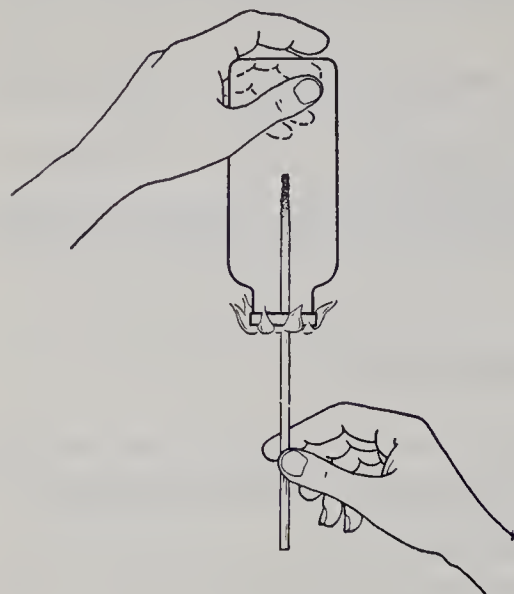

Fig. 33. Thrusting a blazing splint into a bottle of hydrogen.
4. Lift the bottle of hydrogen collected by the downward displacement of water from the table and keeping the mouth down (Fig. 33), slowly insert a long blazing wooden splint into the bottle. Leave the splint in the bottle for a short time and then slowly withdraw it from the bottle.